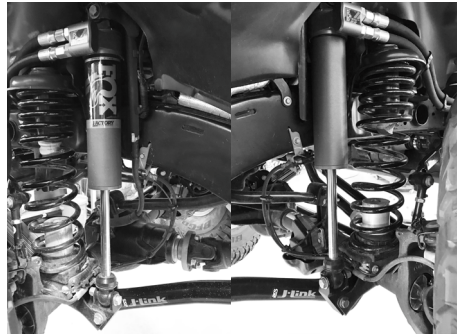

Fig. 8 Driver's side (Left), Passenger's side (Right)
8. Connect the FOX Shock to the lower relocation block using the supplied 12MM hardware. Torque to 75 ft-lbs. See figure 8 for final install.